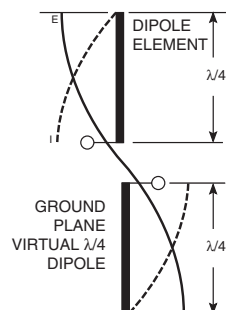

Figure 28: Dipole Antenna
4. In many antenna designs, particularly  $\frac{1}{4}$ -wave whips, the ground plane acts as a counterpoise, forming, in essence, a  $\frac{1}{2}$ -wave dipole (Figure 28). For this reason, adequate ground plane area is essential. The ground plane can be a metal case or ground-fill areas on a circuit board. Ideally, it should have a surface area less than or equal to the overall length of the  $\frac{1}{4}$ -wave radiating element. This is often not practical due to size and configuration constraints. In these instances, a designer must make the best use of the area available to create as much ground